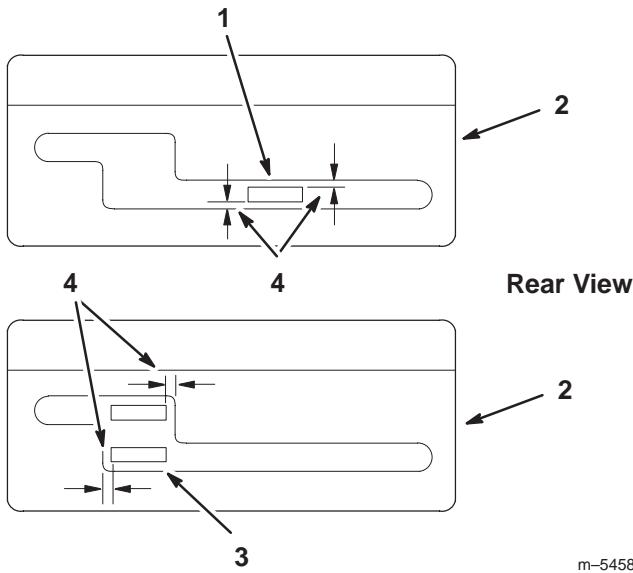

Figure 5
- Shift lever to second gear and check alignment of lever in slot of shifter plate. The clearance between top and bottom of the shift lever should be equal (Fig. 5).
- Shift lever to neutral and check alignment of lever in slot of shifter plate. The clearance on the sides of shift lever should be equal (Fig. 5).